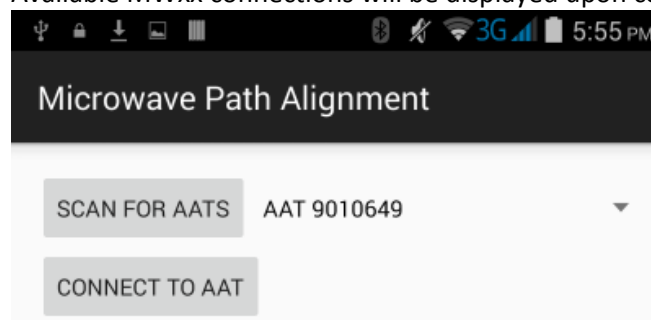

Figure 14
- 8) Using the drop-down menu, locate the MWxx connection matching the serial number of the MWxx being used and click “CONNECT TO AAT.” *See Figure 14*
- 7) Locate the MWxx connection matching the serial number of the MWxx to be used and click “CONNECT TO AAT.” See Figure 14